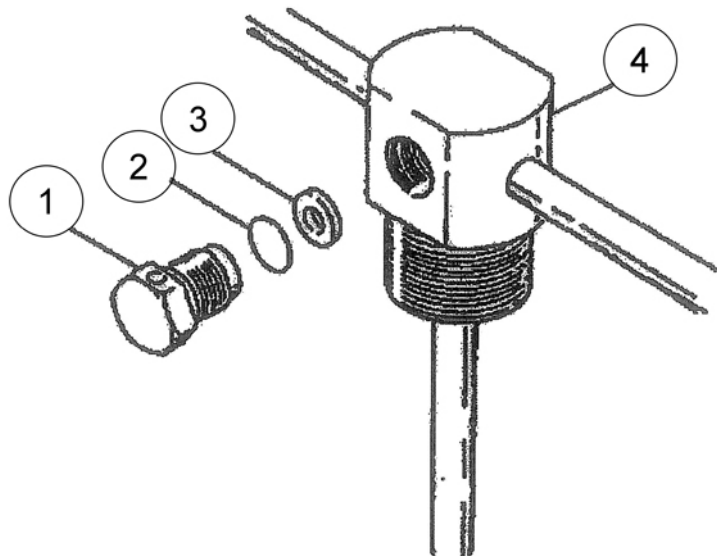

Fig 4.14 Corrective Maintenance - Burst Disc Assembly
2. Remove the plug (Fig 4.14, Item 1) taking care to avoid damaging the face of the plug contacting the burst disc (Fig 4.14, Item 2).
- (1) A new burst disc must be fitted every time the plug is removed.
- (2) Inspect for burrs, sharp edges etc before replacing the burst disc.
3. Check the condition of the seat (Fig 4.14, Item 3).
4. Tighten the plug (Fig 4.14, Item 1) to the recommended torque setting of 6.78 Nm (5 lb-ft).